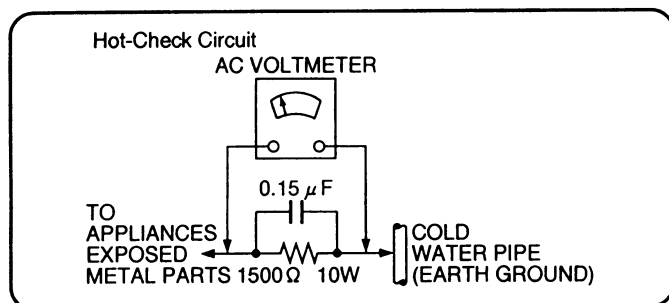

Figure 1
LEAKAGE CURRENT HOT CHECK (See Figure 1.)
2. Connect a $1.5k\Omega$, 10 watts resistor, in parallel with a $0.15\ \mu\text{F}$ capacitors, between each exposed metallic part on the set and a good earth ground such as a water pipe, as shown in Figure 1.